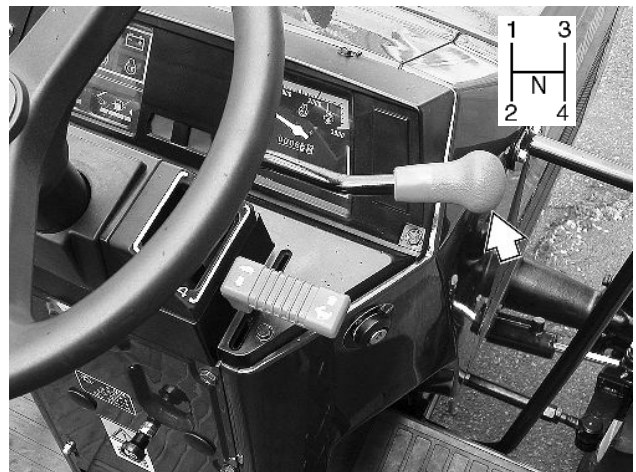

Figure 13 - Transmission Main Shift Lever
1. The transmission main shift lever is in the NEUTRAL position, in Figure 13.